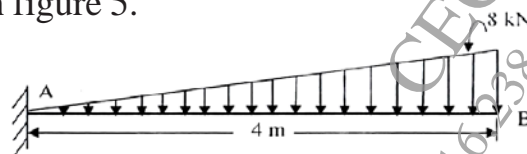

Figure 5
- b) Draw the shear force and bending moment diagram of cantilever beam as shown in figure 5. [7]